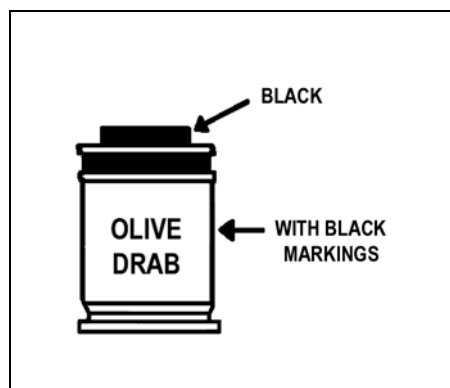

Figure 3-17. Buckshot round.
(8) **Buckshot Round.** This round is olive drab with black markings (Figure 3-17). Though it is a multipurpose round, it is most effective in thick vegetated areas or for room clearing. Inside it has at least 2,000 pellets, which cast a cone of fire 30 meters wide and 30 meters high and travel at 269 meters per second. Be sure to aim buckshot rounds at the foot of the target. The round has no mechanical-type fuse.